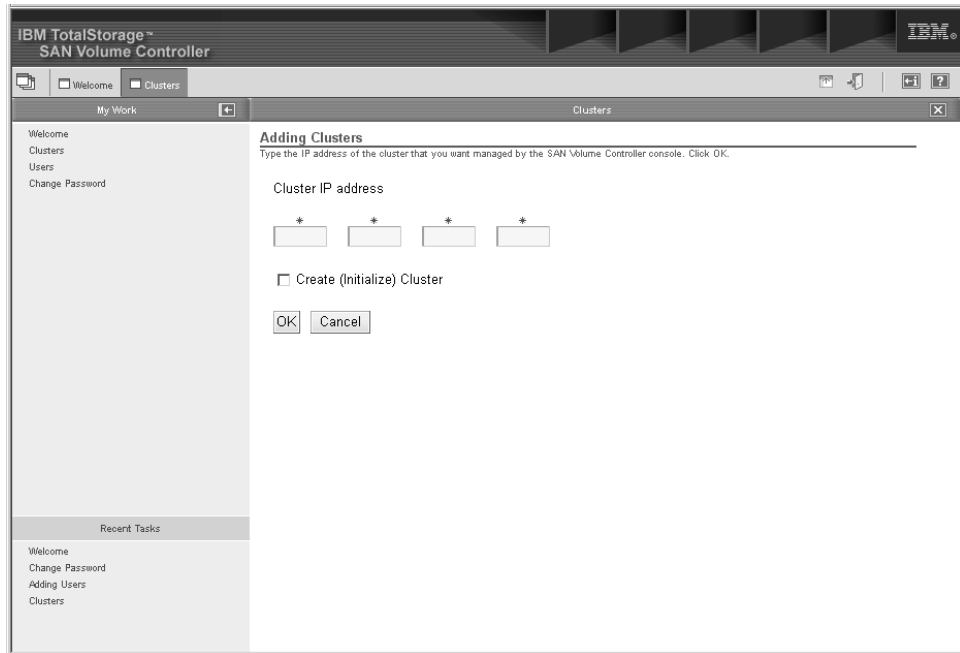

Figure 21. Add Cluster panel
- a. The welcome screen will be shown as Figure 21 on page 84. Click the **Add SAN Volume Controller Cluster** button.